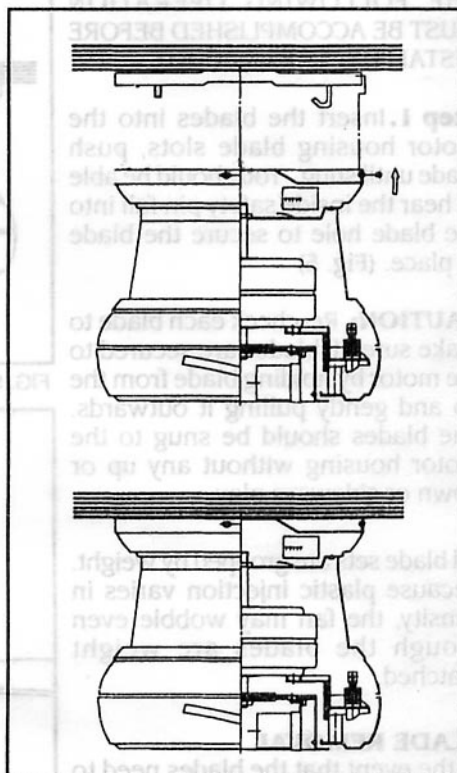

FIG. 4
Step 1. (Fig. 4.) Move fan into position over the mounting bracket. Align the holes from the motor housing to the four screws on the mounting bracket. Lower the motor housing assembly. Loosen the two screws that line up to the key holes and remove the other two screws.
Step 2. (Fig. 4) Bring the motor housing assembly back up and engage the motor housing assembly to the two screws previously loosened via the key holes.
Step 3. (Fig. 4) Install the two screws previously removed and securely tighten all four screws.